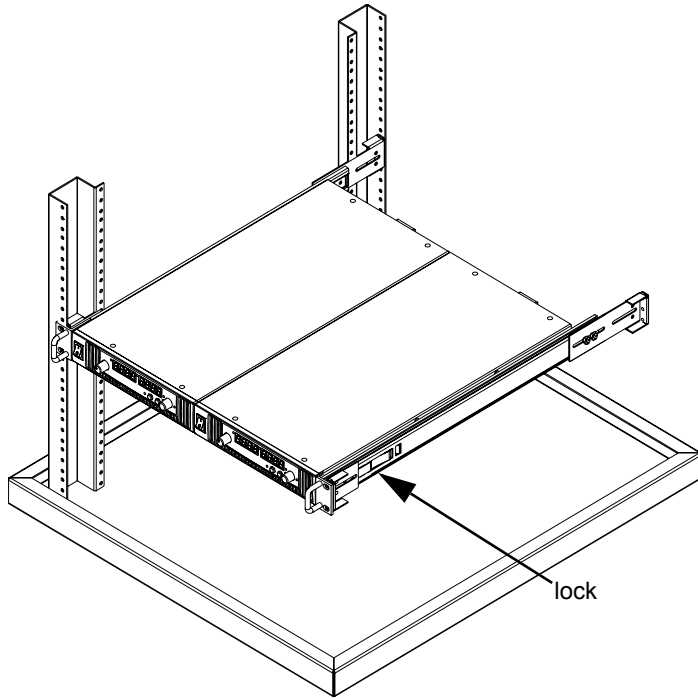

Figure 9 Installing Chassis
9. Remove chassis and securely tighten hardware from step 4. See Figure 9.